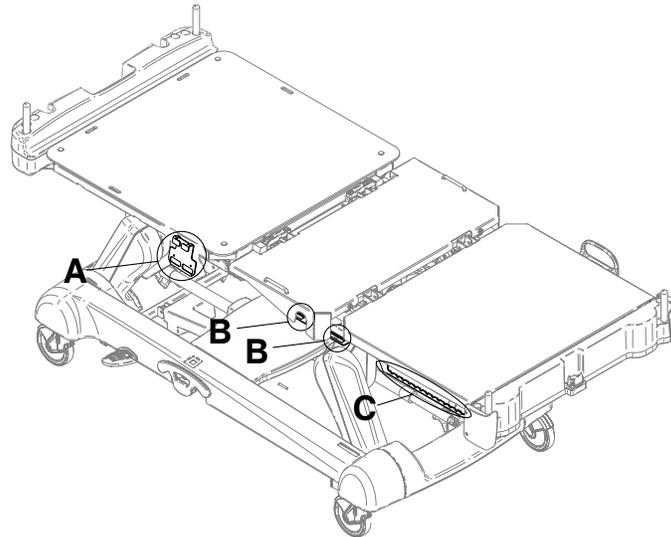

Figure 10: Foley bag hooks
There are two isolated foley bag hooks under the seat section (B) on both sides of the product (Figure 10 on page 24). If you weigh the patient with the scale system, the isolated foley bag weight is not included with the patient weight.
There are four foley bag hooks under the fowler section (A) and foot section (C) on both sides of the product (Figure 10 on page 24). If you weigh the patient with the scale system, the foley bag weight is included with the patient weight.